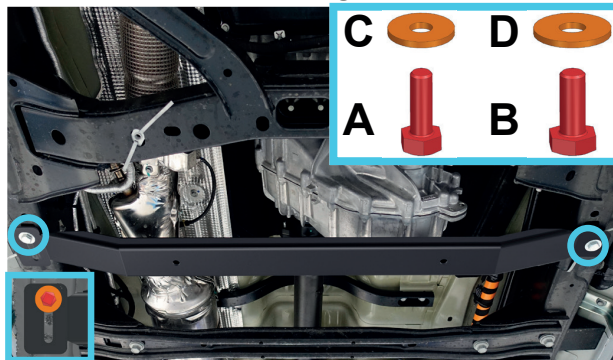

Fig. 3
2. Secure the supplied crossmember (item 2) to the previously installed M10 insert nuts(item F) using M10x35 bolts (item A) and M10 washers (item C) as shown in fig.3&4. If there is a factory threaded hole, use supplied M12x30 bolt(item B) and M12 washer(item D) on the passenger side.